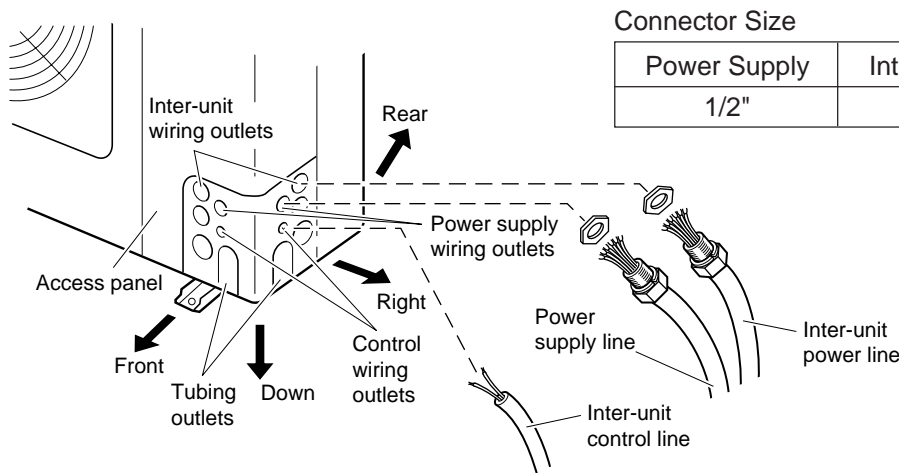

Fig. 4-3
- Tubing can be extended in 4 different directions as shown in Fig. 4-3.